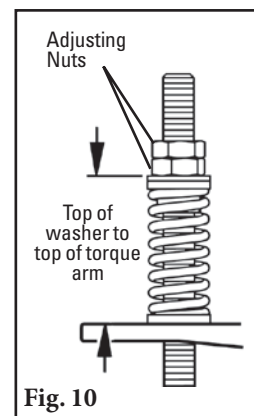

Fig. 10
15. Set the correct blade tension. Refer to the chart on the pivot shaft bracket (also shown below) for the spring length required for the belt width. Lightly pull the pivot arm toward the end of the torque arm slot nearest the pole and turn the adjusting nuts until the required spring length is achieved (Fig. 10). Lock the top adjusting nut.